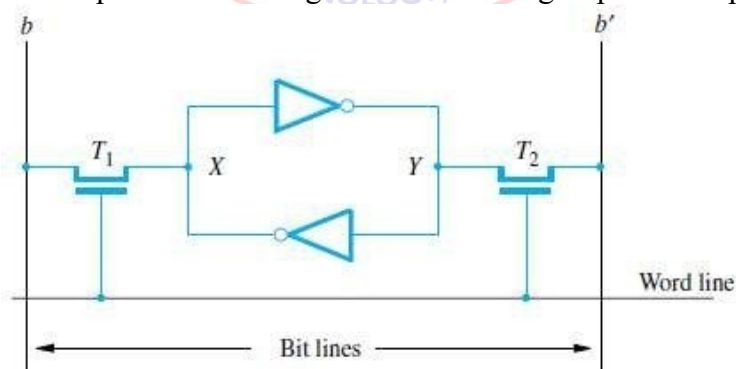

Figure 8.4 A static RAM cell.
- Two inverters are cross connected to form a latch (Figure 8.4).